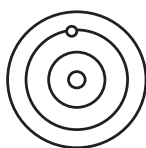

Fig. 2.10: Bohr's model
1. The electrons move in a definite circular paths around the nucleus (Fig 2.10). He called these circular paths as **orbits** and postulated that ***as long as the electron is in a given orbit its energy does not change*** (or energy remains fixed). These orbits were therefore referred to as **stationary orbits** or **stationary states** or **non radiating orbits**.